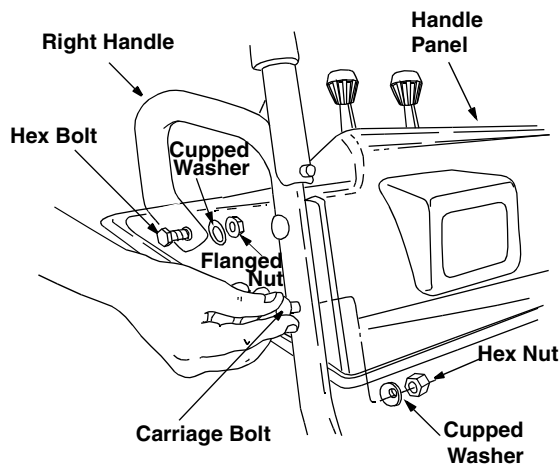

Figure 3
- Place the handle panel in position between the handles so the ends of the curved part of the handles go through the slots in the handle panel. While placing the handle panel, make sure to route chute and chute cable between the handle and the panel keeping the cable on top of the engine. Align the holes in the handle with the holes on the two sides of the handle panel. See Figure 3.
- Attach handle panel to the handle with two carriage bolts, cupped washers (cupped side against the handle panel) and hex nuts on each side. See Figure 3. You will find these fasteners in group B of the hardware pack. Align contour of the carriage bolt head with the handle. Tighten the hardware. Repeat on other side.
- Align the hole on the curved part of the right handle with the corresponding hole on the right side of handle panel making sure that this end of the handle is firmly placed in the slot on the handle panel. See Figure 3.
- Insert a hex bolt, cupped washer and flange nut from Group F of the hardware pack through these holes as shown in Figure 3. Tighten to secure. Do not attach the left side now.